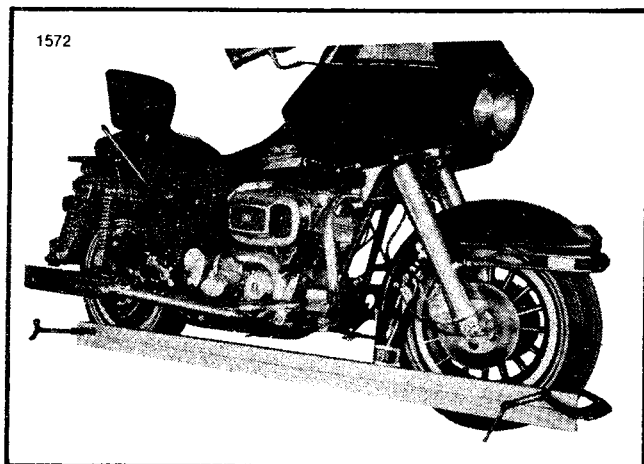

Figure 3. Wheel Alignment — Horizontal
- See Figure 3. Place a straightedge on EACH side of both tires as close to the axle as the brake discs and sprocket housing allow. Check the alignment of the rear tire. Each tire should touch the straightedge at two places. If the rear wheel is more than 1/32 inch out of alignment, loosen the front engine mount bolts and front rubber mount through bolt first, then the stabilizer locknuts. Adjust the front stabilizer to bring the wheel into alignment. DO NOT USE THE CHAIN ADJUSTER TO ALIGN THE WHEEL.